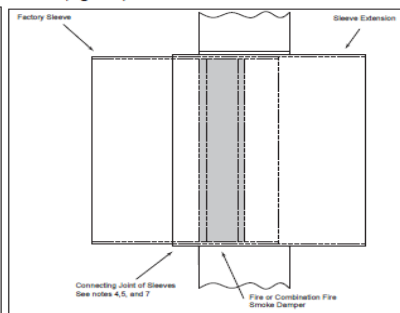

Figure 2: Factory sleeve ends in the plane of the rated barrier.
- When the factory sleeve ends in the plane of the rated barrier (**Figure 2**).